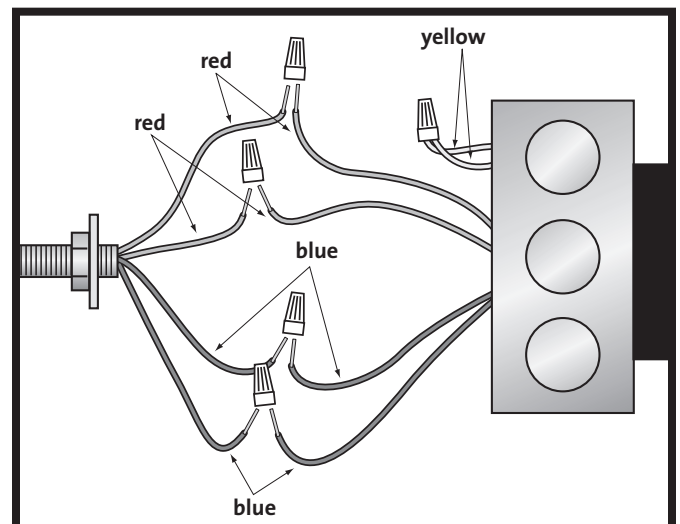

Figure 2
**4.** Bring in the switched 120 VAC supply wiring into the 4" x 4" junction box. Connect the black wire from the junction box to the black wire from the ballast and the white wire from the junction box to the white wire from the ballast (see Figure 1). Then, connect red wires from the threaded rod to the red wires from the junction box and connect the blue wires from the threaded rod to the blue wires from the junction box (see Figure 2). **DO NOT USE OR DISCONNECT YELLOW WIRES.** It is important that all wiring complies with local codes, be properly grounded, (and recommended) all AC feed wiring should be through a GFCI branch circuit.